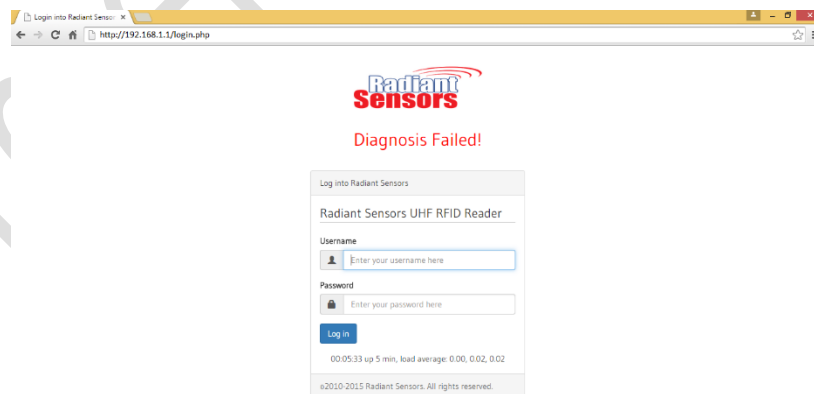

Figure 5, UHF RFID Reader Web Configuration Login Page (Connection Failed)
- 3- If you see “*Diagnosis Failed!*” message, Figure 5, it means that there are some hardware problems with **UHF RFID Reader** or start-up process. In this case **UHF RFID Reader** makes 5 short beeps. Refer to the troubleshooting section or contact **Radiant Sensors** support team to figure out what the problem is.